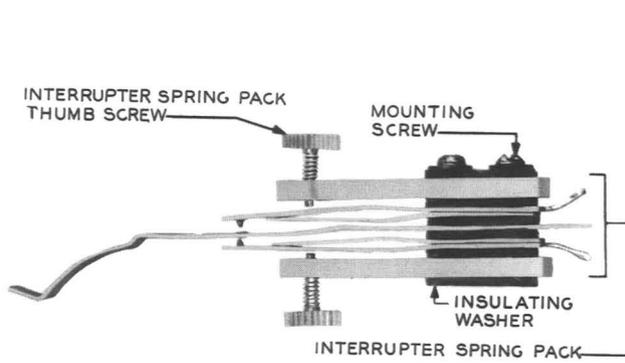

Fig. 8A - Insulated Cam Type Low-speed Interrupter Spring Pack
3.15 Interrupter Spring Pack (See Fig. 8A and 8B)